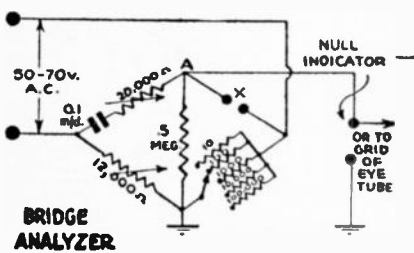

Fig. 605
A. The two drawings (Fig. 605 and 606) show an analyzer (capacity and power factor measurer) and a leakage checker. The 12,000-ohm resistor gives the capacity, the 20,000 the power factor. The null indica-